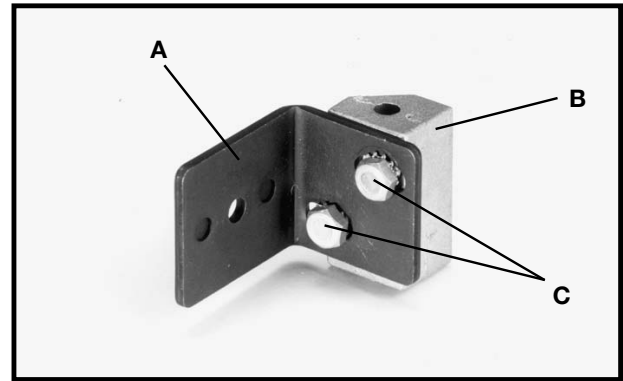

Fig. 14
3. Fasten the splitter support bracket (A) Fig. 14, to splitter bracket (B) using two 1/4-20 x 1/2 in. Hex Head Screws (C), and two 1/4 in. external tooth lockwashers as shown. **NOTE: Do not completely tighten screws (C) at this time.**